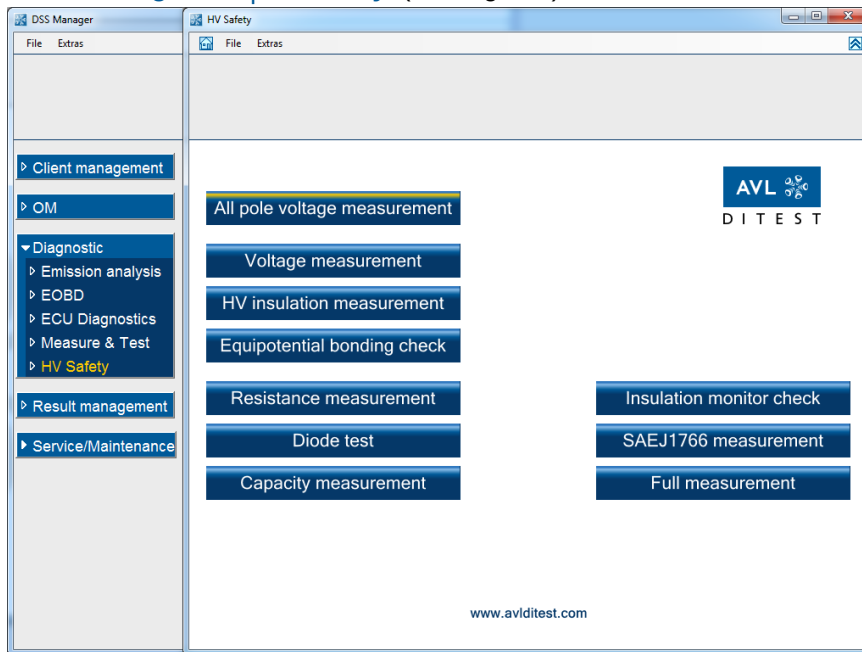

Fig. 3-1
By activating the current records, the special measurement functions (insulation monitor check, SAEJ1766 measurement and overall measurement) will appear in the measurement function selection on the home screen of the HV Safety application (see Figure 3-1).
Click on **Diagnostic | HV Safety**, (see Fig. 3-1).
1. When you click on the **All pole DC voltage measurement** mode (see Fig. 3-1), a screen of safety instructions will appear. **You must read and observe these safety instructions.**
1. When you click on the **DC voltage measurement** mode (see Fig. 3-1), a screen of safety instructions will appear. **You must read and observe these safety instructions.**